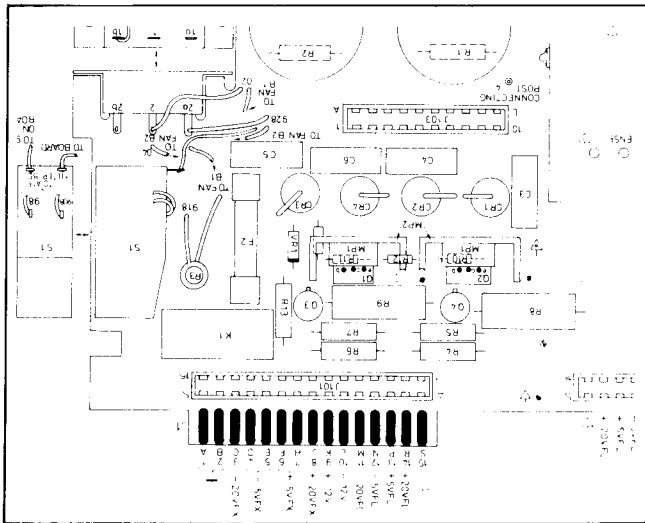

Figure 8-3-5. A10 Checkpoints
4. Using a DVM with floating inputs, measure voltages between TP12 (floating ground of switched supply) and corresponding A10 test points, as shown in Figure 8-3-5.